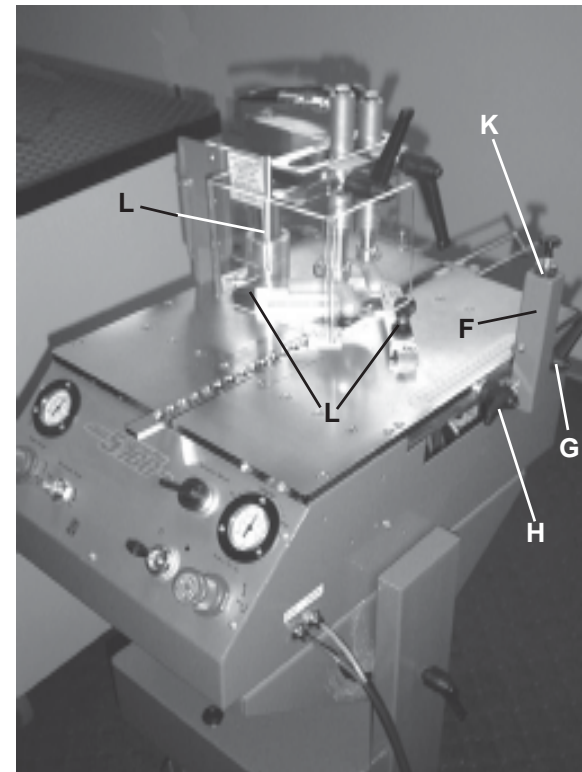

Figure 10
3. Use light oil on a cloth to wipe the vertical shaft (**L**) in Figure 10 which operates the **Upper Clamps**. Clean out the **Foot Pedal** and all of the porous silencers on the pneumatic valves using commercially available air pressure cans.